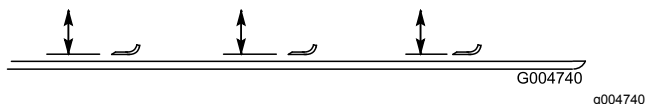

Figure 130
4. Rotate the blade until the ends face forward and backward, and measure from the inside of the mower deck to the cutting edge at the front of the blade (Figure 130).